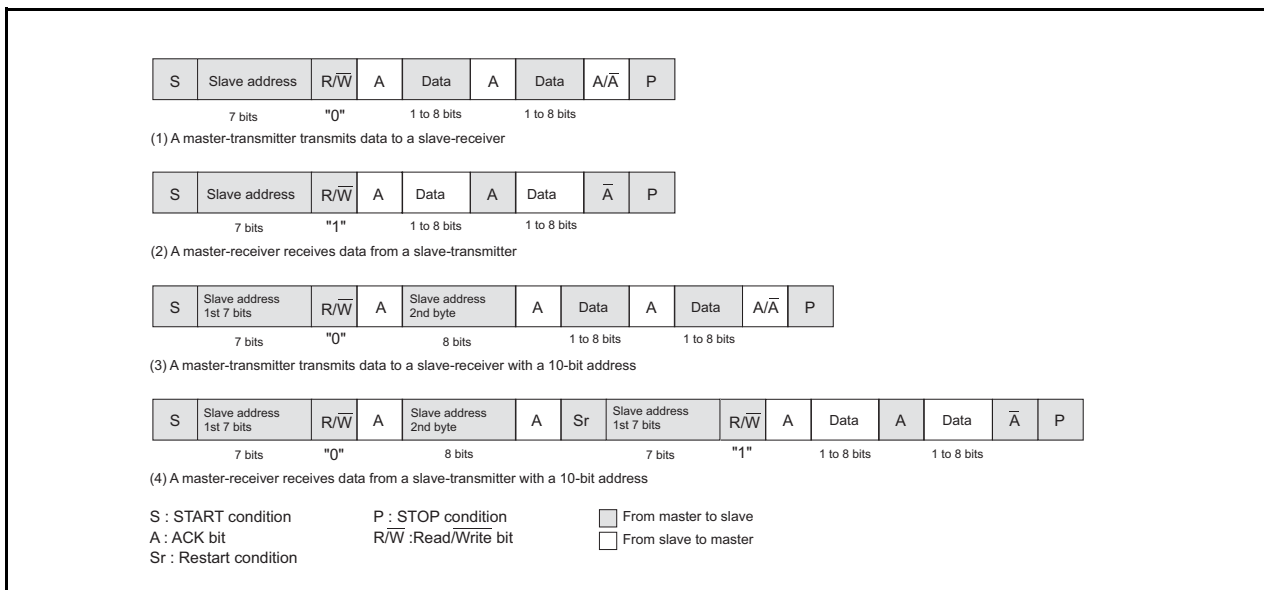

Figure 11.13 Address data communication format
To meet the 7-bit addressing format, set the 10BIT SAD bit of the I2C control register to “0.” The first 7-bit address data transmitted from the master is compared with the high-order 7-bit slave address stored in the I2C address register. At the time of this comparison, address comparison of the RBW bit of the I2C address register is not made. For the data transmission format when the 7-bit addressing format is selected, refer to Figure 11.13 (1) and (2).
When the first-byte address data matches the slave address, the AAS bit of the I2C status register is set to “1.” After the second-byte address data is stored into the I2C data shift register, make an address comparison between the second-byte data and the slave address by software. When the address data of the 2nd bytes matches the slave address, set the RBW bit of the I2C address register to “1” by software. This processing can match the 7-bit slave address and  $R/\overline{W}$  data, which are received after a RESTART condition is detected, with the value of the I2C address register. For the data transmission format when the 10-bit addressing format is selected, refer to Figure 11.13, (3) and (4).
**(11) Example of Master Transmission**